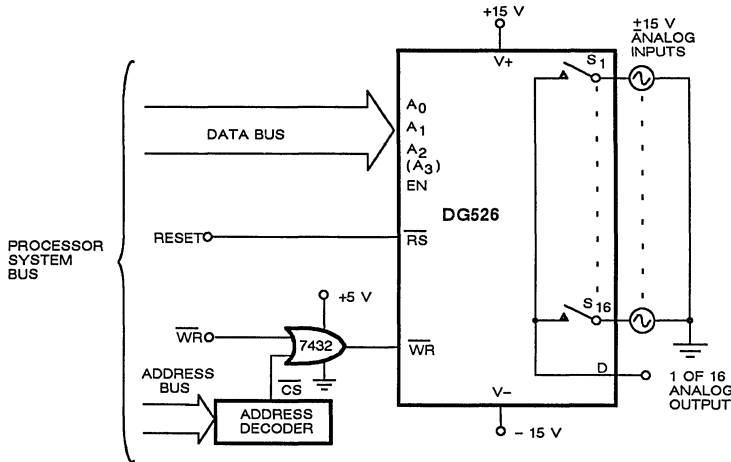

Figure 10
**CIRCUIT OPERATION (See Figure 10)**